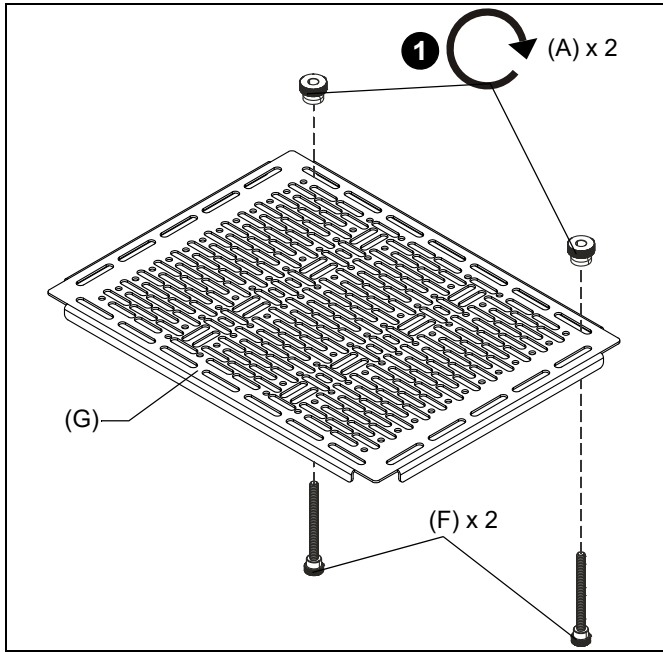

Figure 4
1. Attach two thumb screws (F) to two thumb nuts (A) through corners of the mounting plate (G). (See Figure 4)